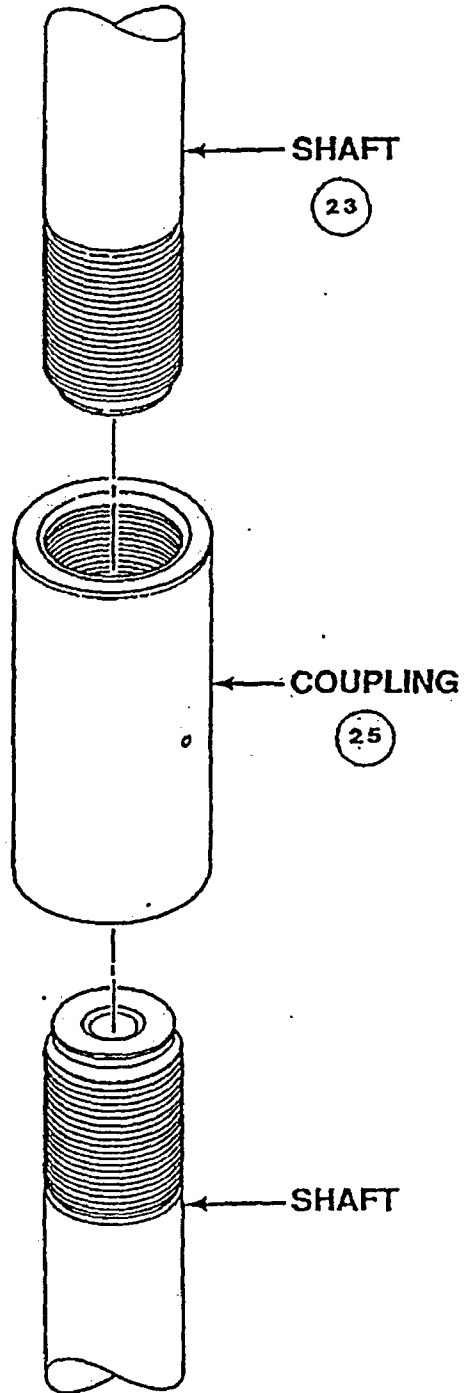

FIGURE 3-1 SHAFT COUPLING ASSEMBLY (TYPICAL)
3.4 PUMP INSTALLATION (See Figures 3-1 through 3-3)